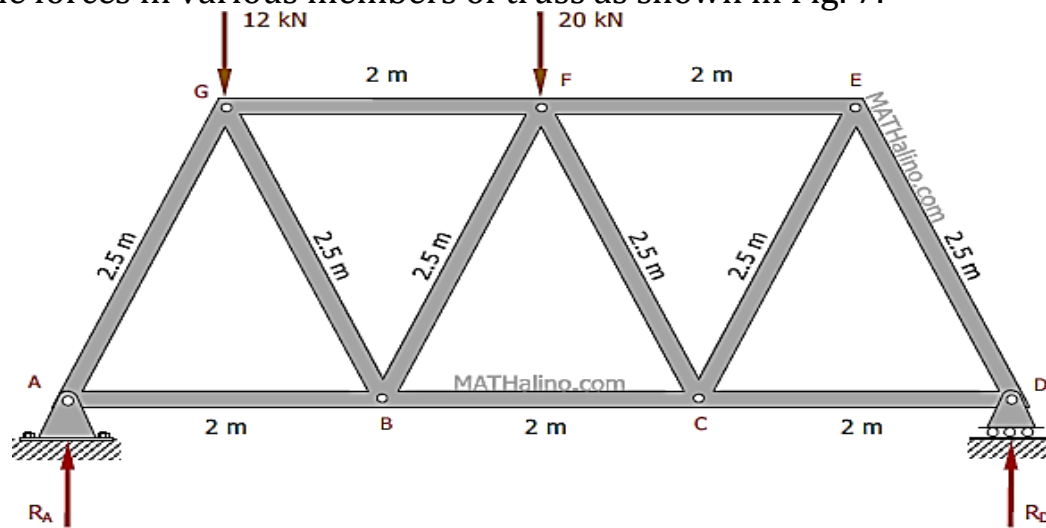

Fig. 7
7. Determine the forces in various members of truss as shown in Fig. 7.